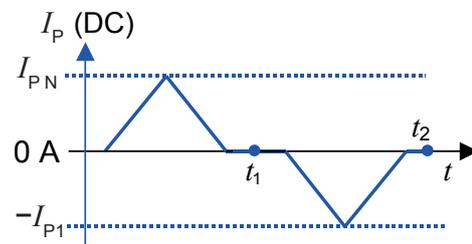

Figure 9: Current cycle used to measure magnetic and electrical offset (transducer supplied)
- in a known magnetization state, like in the current cycle shown in figure 9.
Using the current cycle shown in figure 9, the electrical offset is: